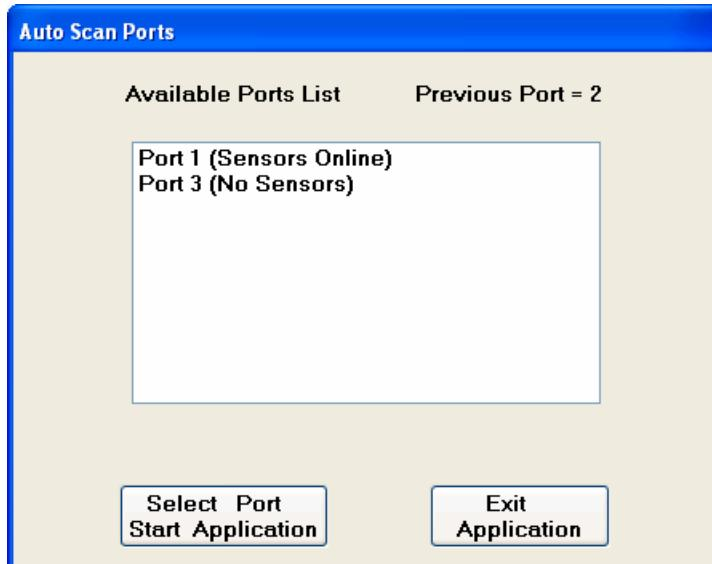

Figure 8 Auto Scan Sensors
1. When the previous port setting in INI file does not exist or no sensors are connected to this COM port, auto scanning ports from 1 to 8 will be performed. Available ports with sensors online information will be displayed in the list box as shown in figure 8. (This feature exists in LeakTek version 4.03 or after)